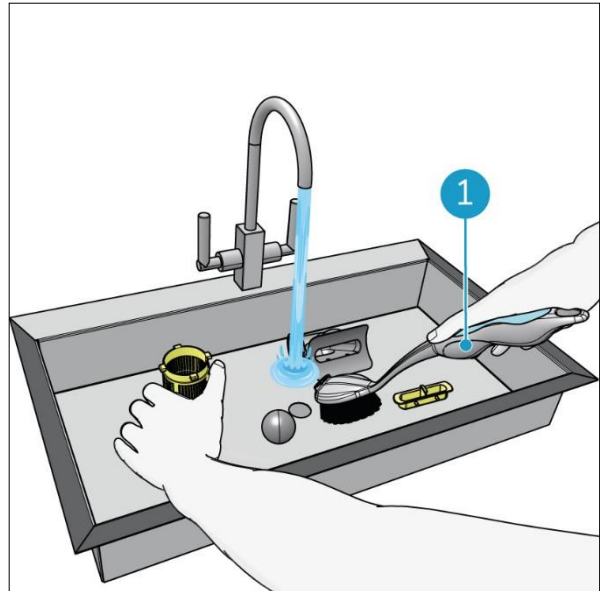

Figure 32
7. Rinse the parts with tap water. If required, clean with a brush (Figure 32, pos 1).